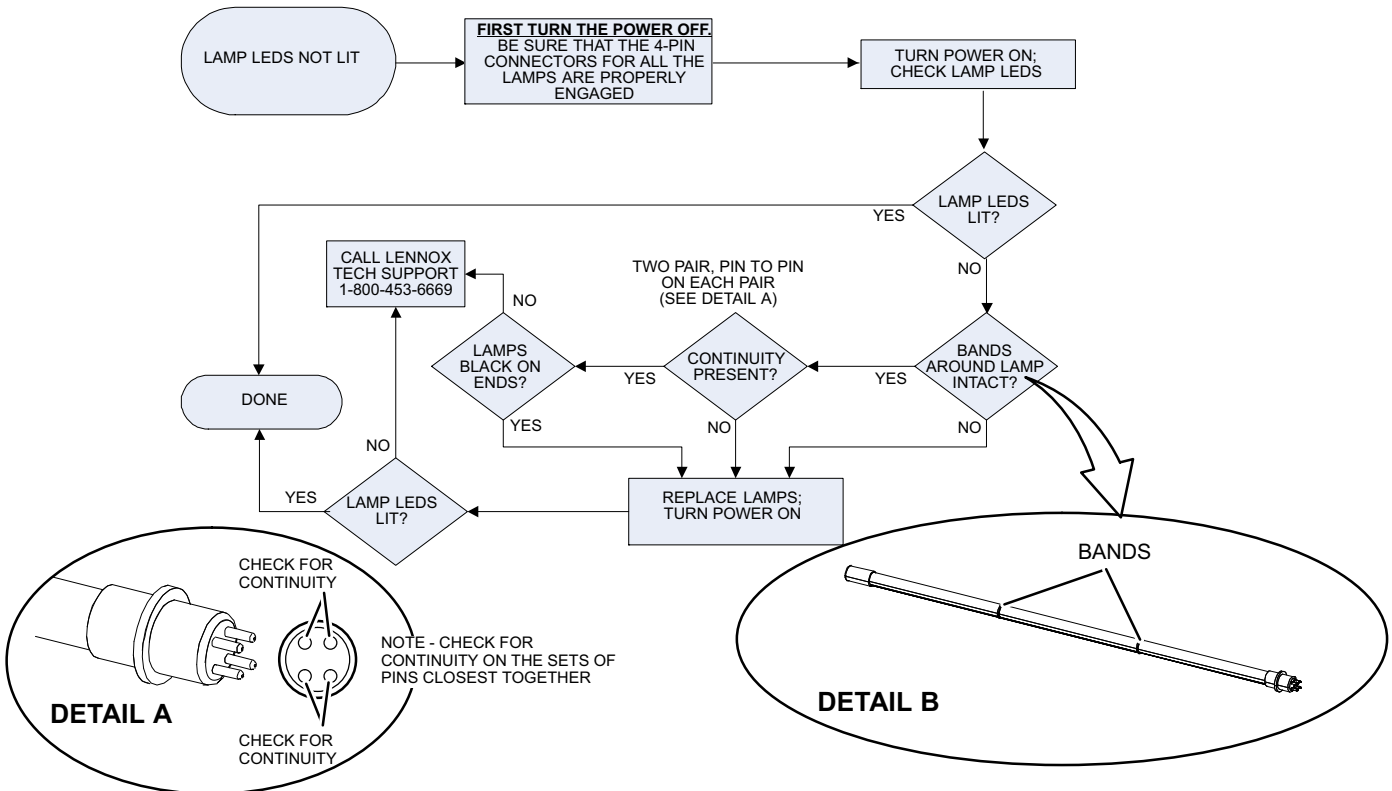

Figure 14. UVC Light Troubleshooting - Lamp
2. Ohm-check across the lamp pins to check for continuity of lamp filaments (see figure 14).